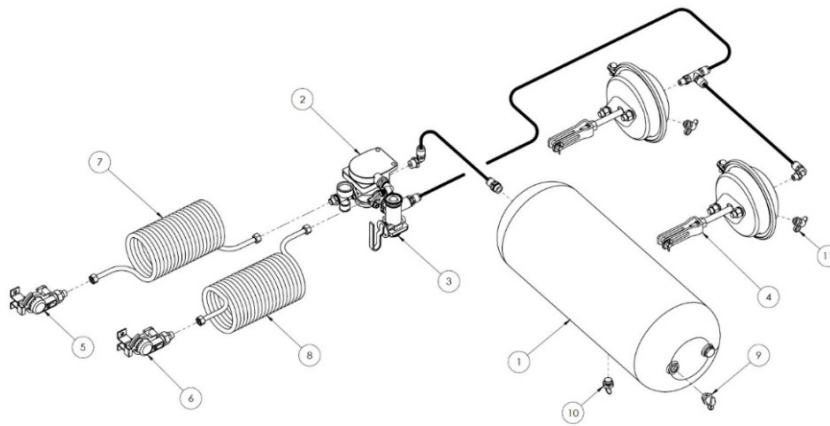

Figure 7 The 2-Line pneumatic braking system
- two-line pneumatic system (Figure 7)